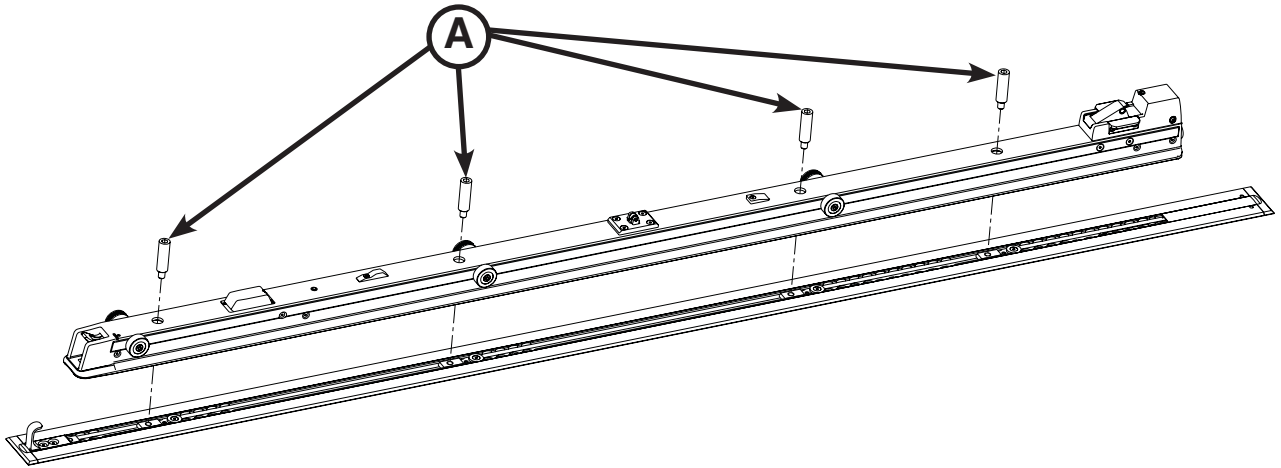

Figure 17: Install Anchor Mounting Posts
1. Using a 3/8" Allen wrench, install the four supplied anchor mounting posts (6390-001-150) (C) into the four holes in the anchor assembly as shown in Figure 17.